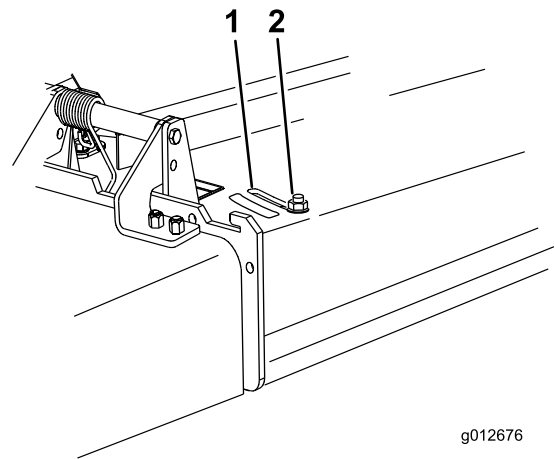

Figure 19
- To adjust the baffle, loosen the nut (Figure 19).